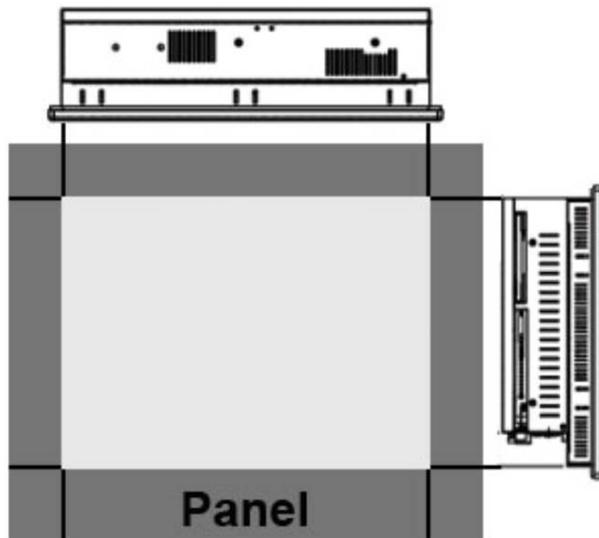

Figure 3-14: Cut the Panel
- Step 2:** Cut out a section of the panel that corresponds to the rear panel dimensions of the PPC-5190. Take care that the panel section that is cut out is smaller than the overall size of the metal frame that surrounds the PPC-5190 but just large enough for the rear panel of the PPC-5190 to fit through (**Figure 3-14**).